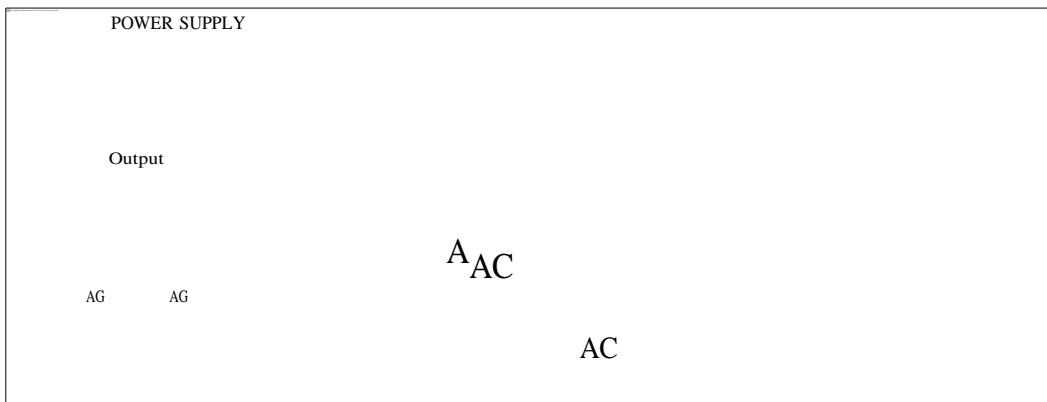

FIGURE8.10
Step 28: a) Disconnect your leads from the main winding and connect them to the auxiliary winding, terminals 3 and 4 as shown in Figure 8.10.